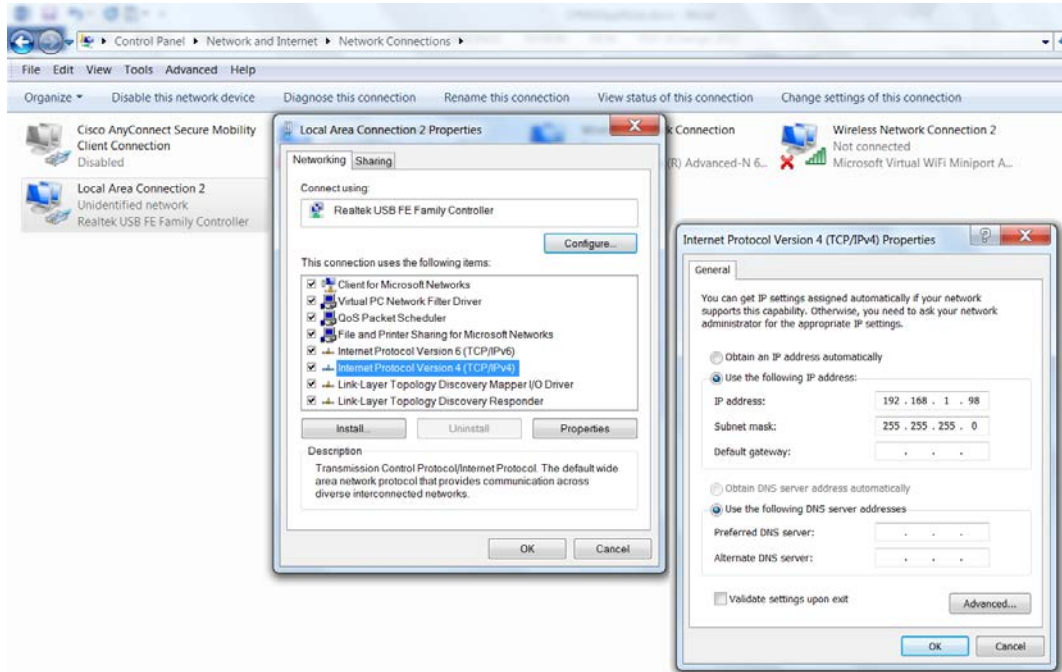

Figure 2- Configuring the PC Ethernet port
- 5.1. To configure the computer Ethernet port open the Network and Sharing center as shown in Figure 2, below.